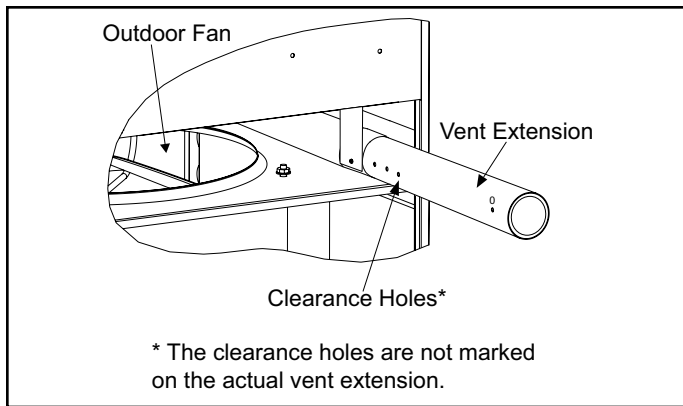

Figure 6. Positioning Vent Pipe Extension
4. Five holes have been drilled into the vent extension (see Figure 6). Four of those holes are provided so that the vent can be extended the necessary length required for the installation. The wall sleeve that is installed determines which of these clearance holes should be used. Using Table 3 and Figure 6, determine which clearance hole should be used to position the vent extension properly. Slide the vent extension outward and line up the correct clearance hole on the vent extension with the hole in the vent pipe and the hole in the mounting bracket.